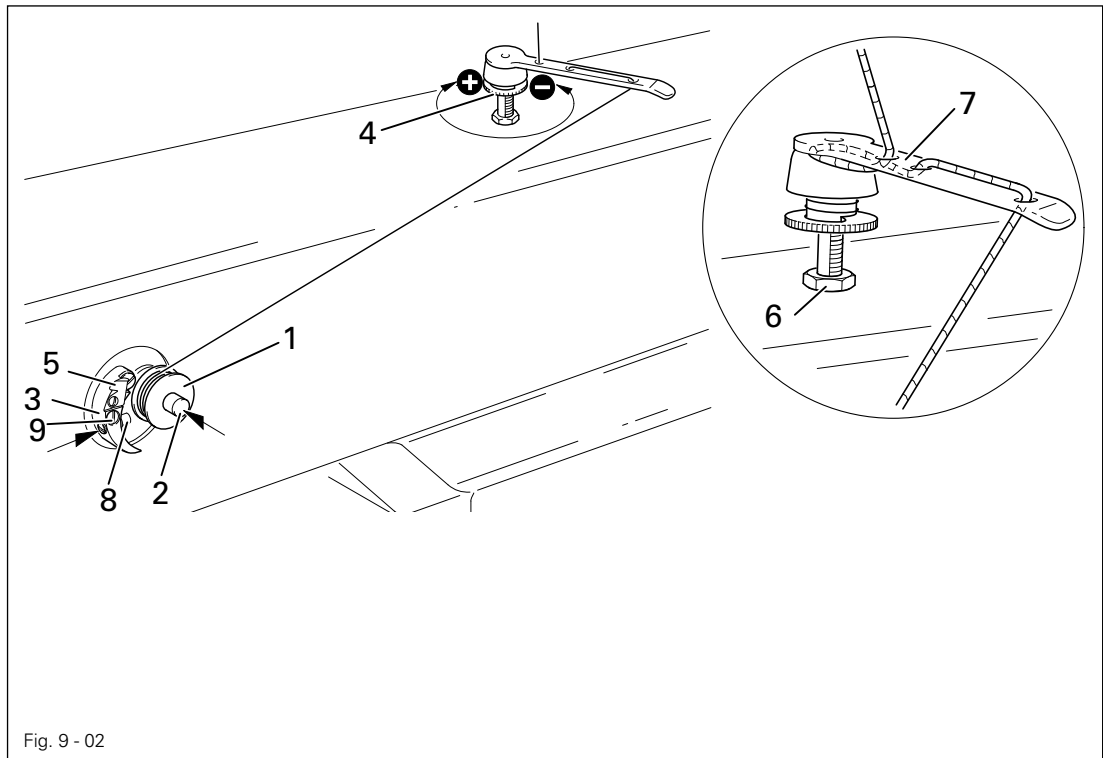

Fig. 9 - 02
- Thread in the thread as shown in Fig. 9 - 03 and wind it round the bobbin 1 a few times in a clockwise direction.